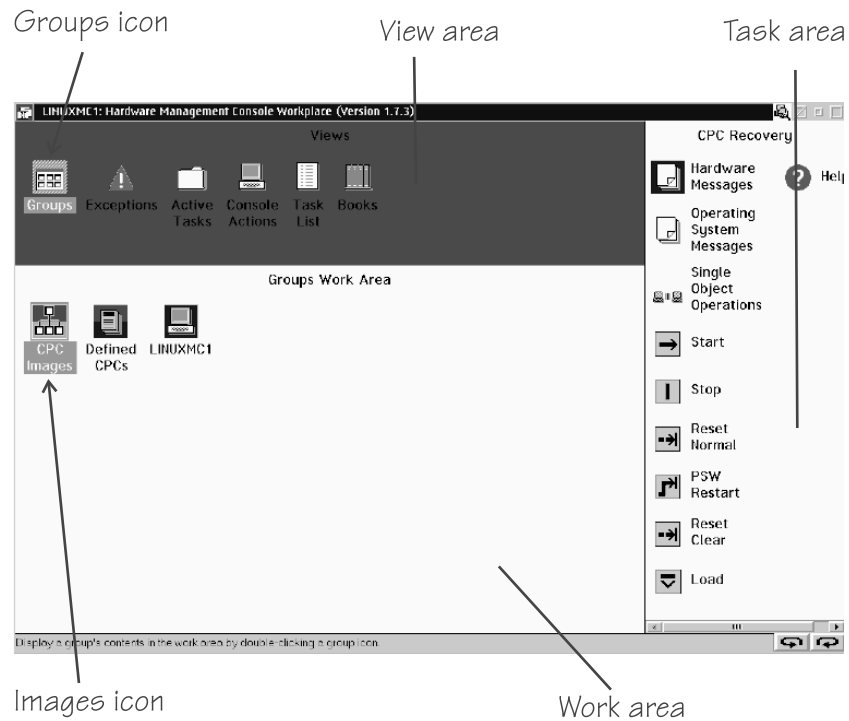

Figure 68. Groups Work Area on the HMC
1. Click the Groups icon in the “Views” area of the HMC to display the “Groups Work Area” (Figure 68 on page 365).